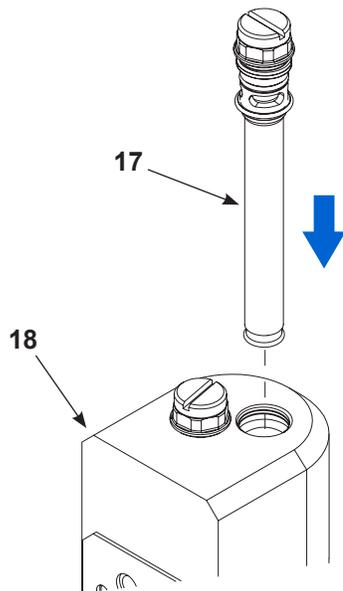

Figure 26 Fasten Fluidizing Tubes into Manifold
- See Figure 26. Insert the assembled fluidizing tube (17) into the top of the purge manifold (18). Snug fit tubes to manifold.